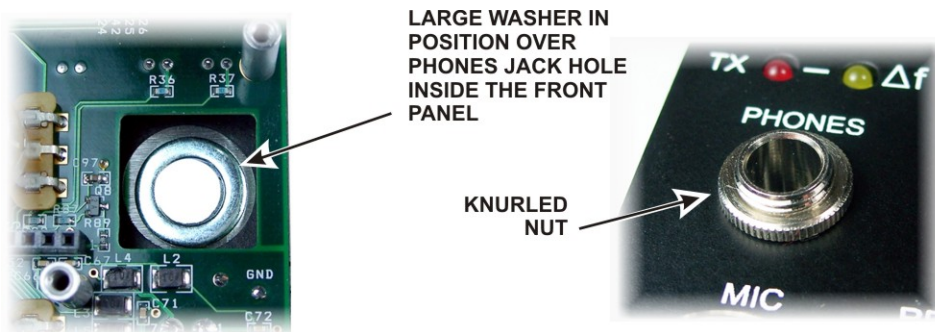

Figure 59. Phones Jack Hardware.
- Position the large flat washer on the inside of the front panel over the PHONES jack hole (see Figure 59 on page 41). This is easily done by sliding the washer into place from the end of the front panel.
- Screw the knurled nut onto the threaded shaft of the PHONES jack where it exits the front panel (see Figure 59). Screw it only finger tight. Do not use pliers.